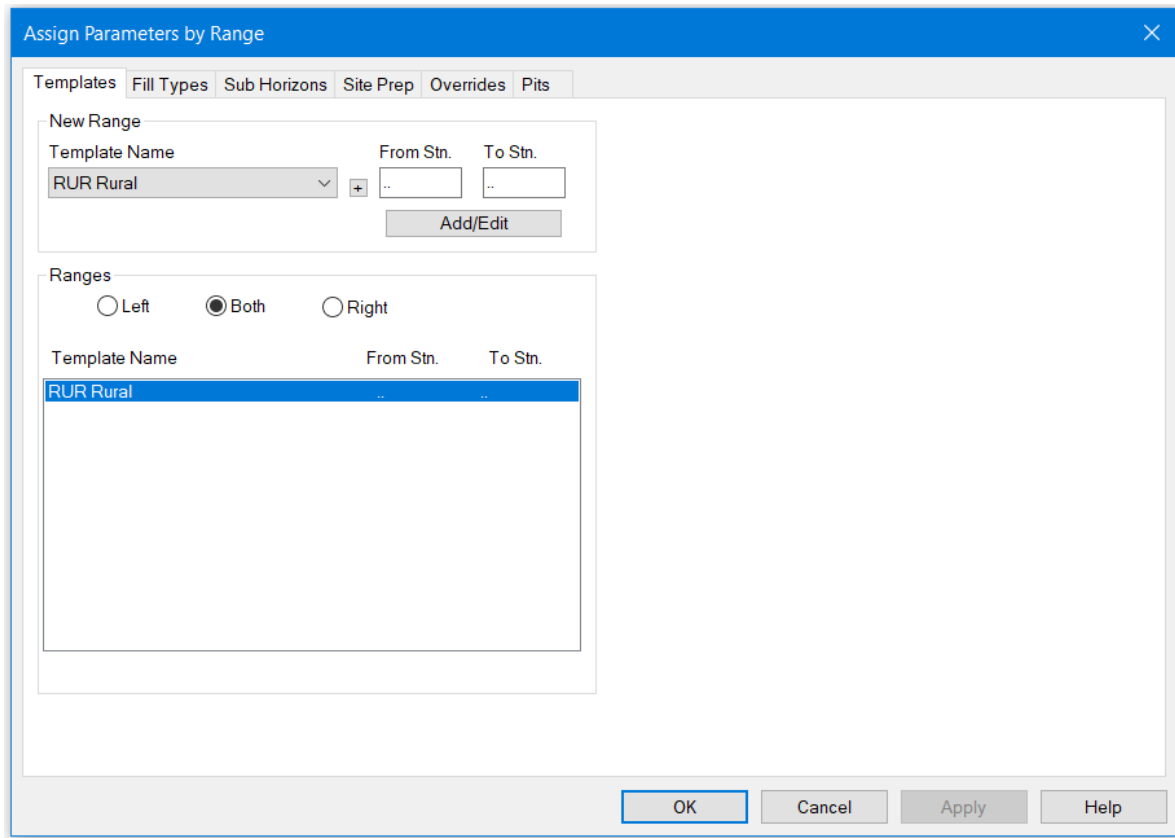

Figure 18-7: Assigning the RUR Rural Template to The Entire Alignment.
2. *Home* | *Assign by Range*. Select the *Templates* tab (Figure 18-7).